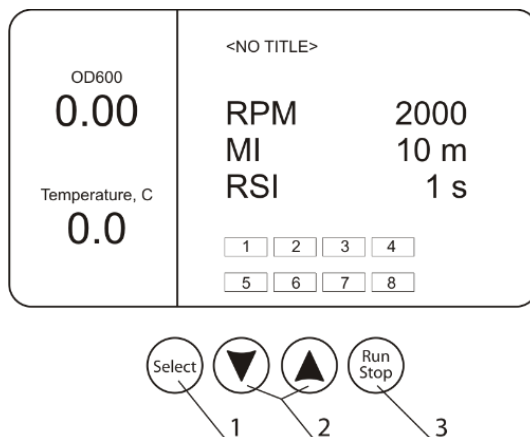

Figure 2. Control panel
6.6.1. Press the **Select** key (fig. 2/1) to activate the possibility to change to an individual channel or to a parameter (the channel box or parameter will be highlighted and blinking). Selected channel box will remain blinking all the time while the device is on. Indications of colours of boxes are the following:
6.6.2. Use ▲ and ▼ keys (fig. 2/2) to change to an individual channel or set the necessary value (the box will be highlighted and blinking).
6.6.4. Press the **Run Stop** key (fig. 2/3) to start and stop operation.